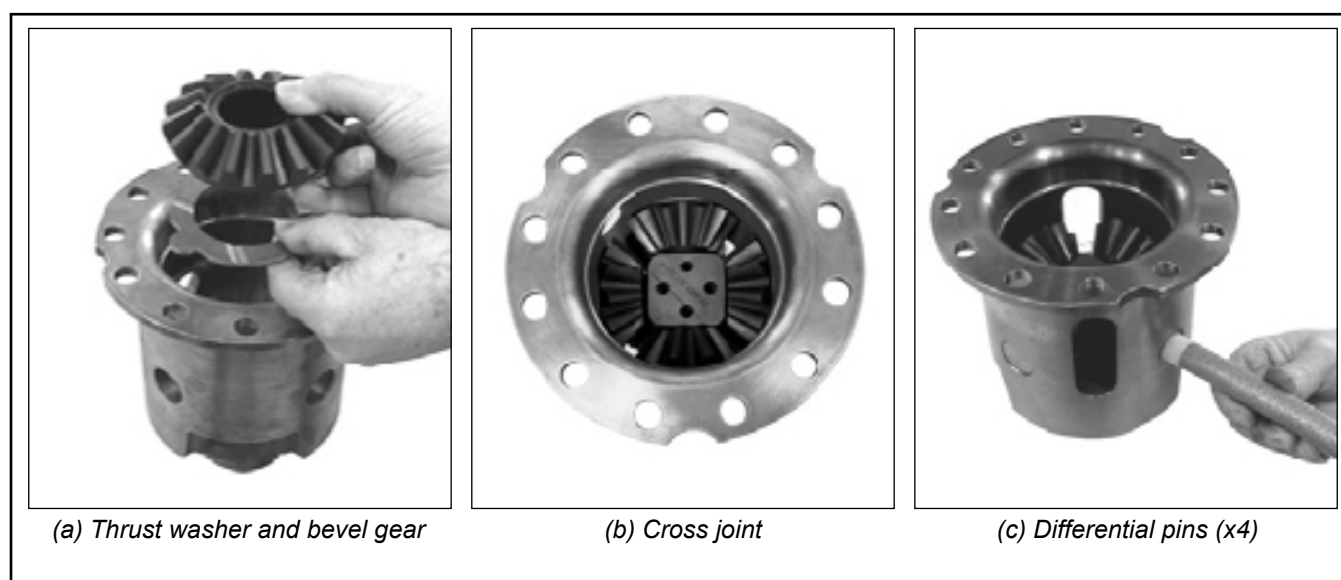

Figure 15 - Differential Carrier Re-assembly
2.41. Place a new thrust washer (part # N8893147) and axle bevel gear (part # N8898604) into the differential carrier. Apply oil on all components according to the ZF List of Lubricants TE-ML. See Figure 15(a).